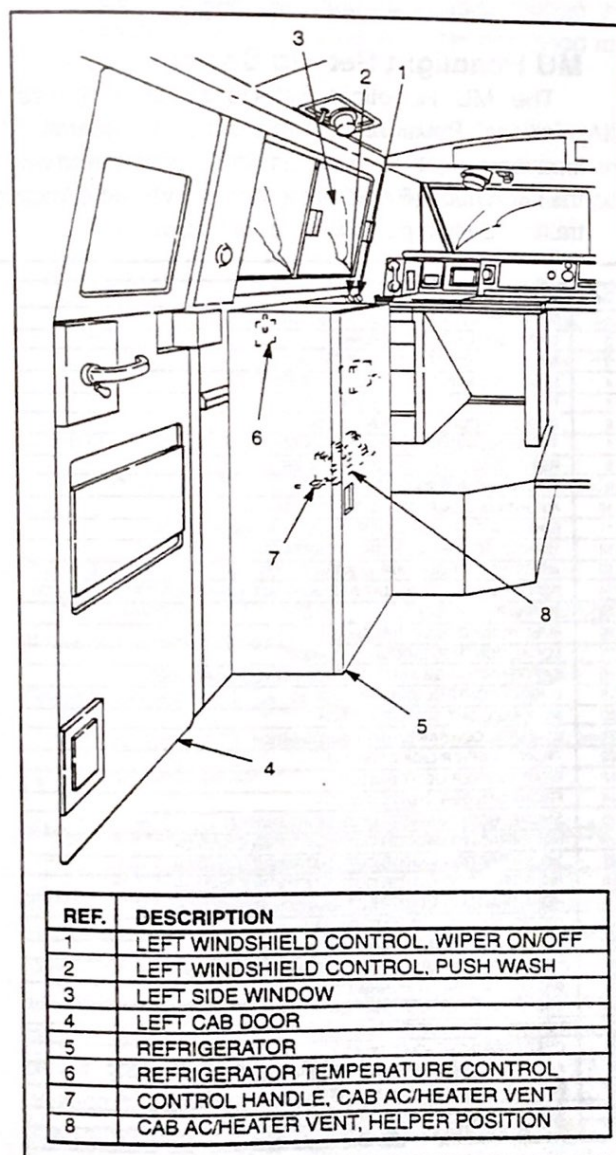

FIG. 11. OPERATING COMPARTMENT EQUIPMENT, LEFT SIDE. E-42713.
**NOTE:** Numbers in parentheses ( ) refer to items found on Figure 11 of this publication unless noted otherwise.